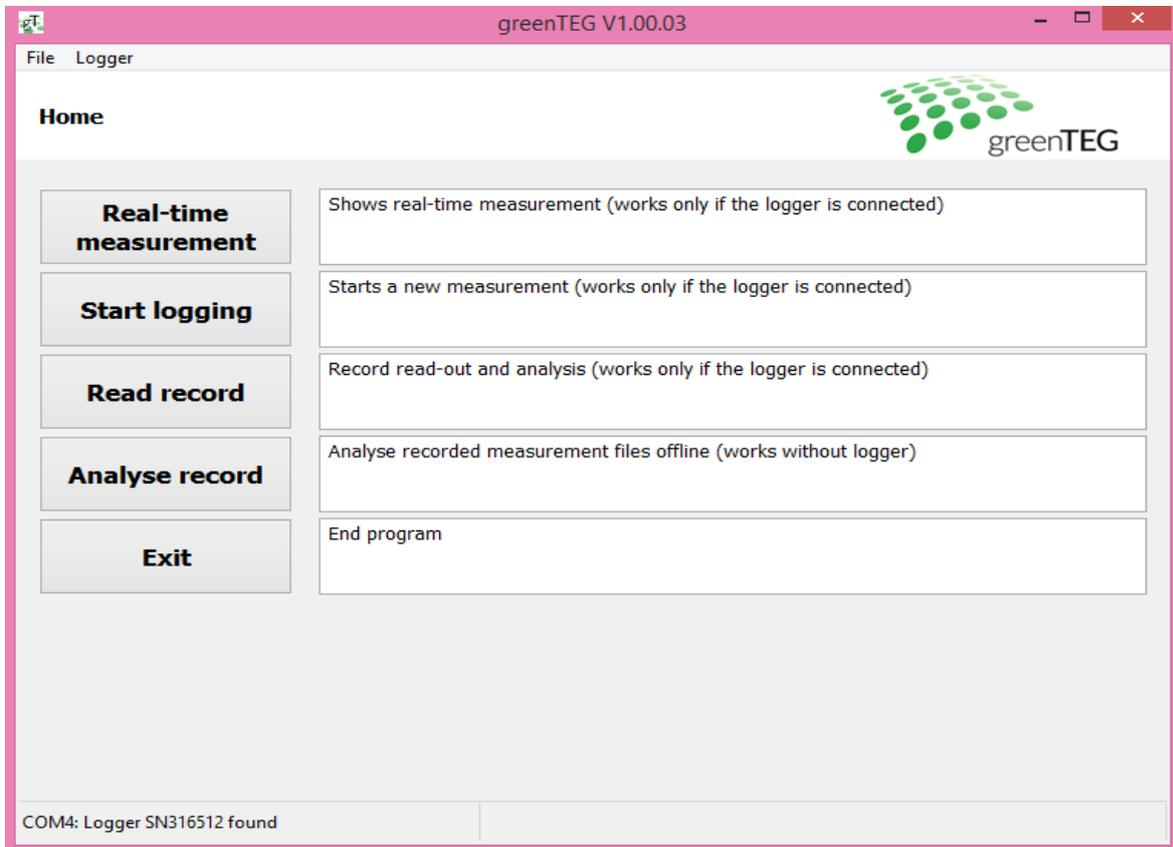

Figure 2. Home screen view with data logger connected to your laptop
The gSKIN® U-value software is built upon a home screen with 7 functional buttons (See Figure 2):
4. When you open the software the home screen will appear (See Figure 2). Under “File” > “Language” you can change the language settings from English to German or vice versa.